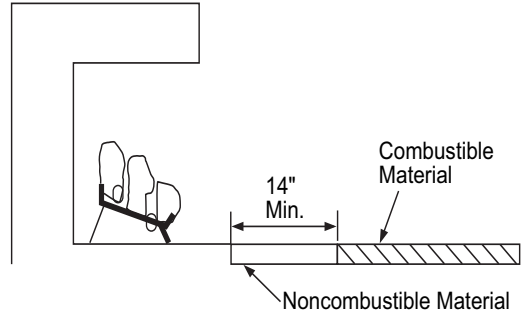

Figure 6 - Minimum Fireplace Clearances If Installed at Floor Level
- A. If installing appliance on the floor level, you must maintain the minimum distance of 14" to combustibles (see **Figure 6**).